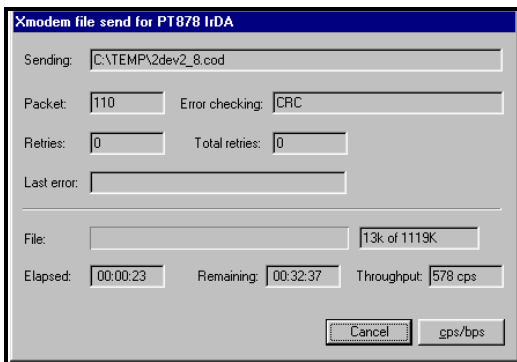

Figure 70: Transfer Menu Send File Window
2. Return to the PC Hyperterminal program. In the Hyperterminal window, pull down the *Transfer* menu and click *Send File*. A window opens similar to Figure 70.